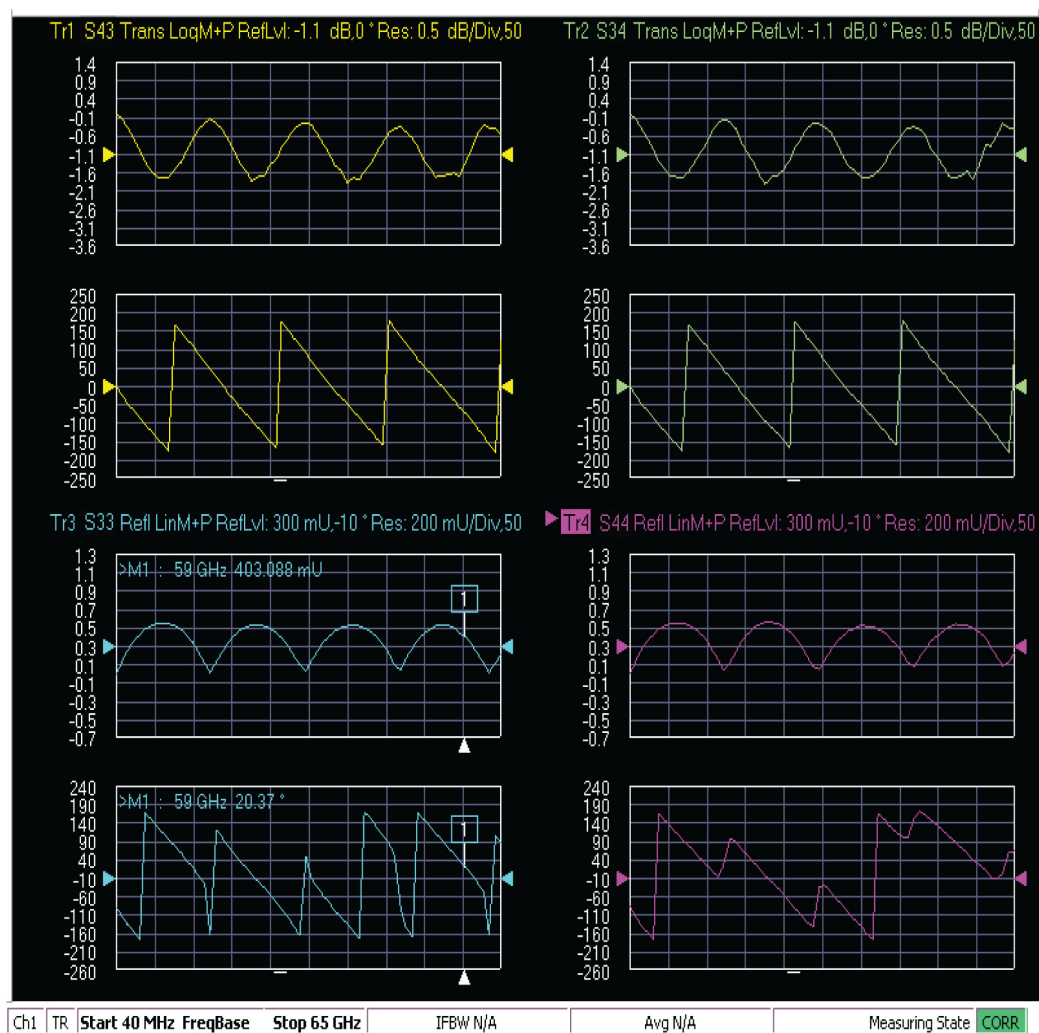

Figure 3-77. MS4640A/B Series VNA, Typical Mismatched Thru Data in Low Band
7. When the test completes, the program returns to the main menu described Section 3-18 “Application Interface – Main Menu Tab” on page 3-48, and the display should look similar to Figure 3-77. This is a typical display immediately after measuring the Mismatched Thru in the Low Band. Please note this is for reference only and that the actual data on the VNA display may not be identical.